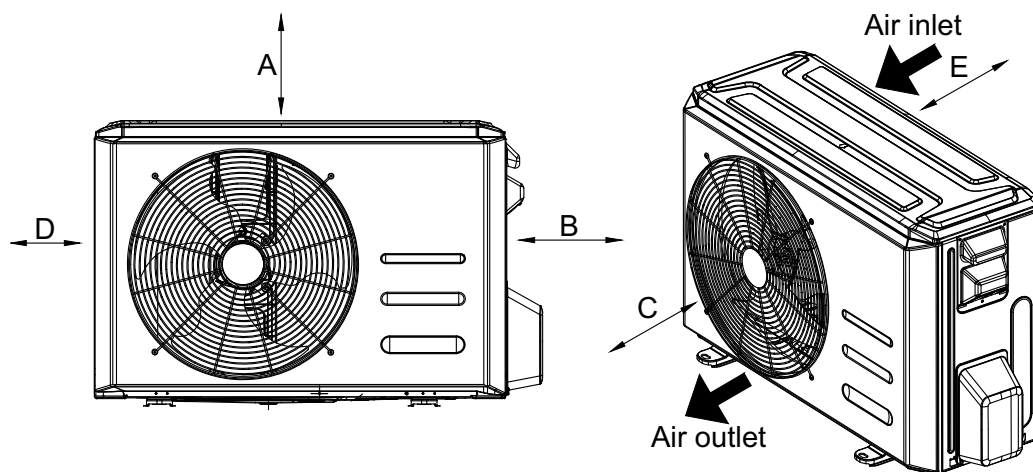

Fig. 7 — Clearances
- A location which provides appropriate clearances (see Fig. 7).
- Allow sufficient space for airflow and service of the unit. See Fig. 7 for the required minimum distances between the unit or walls.